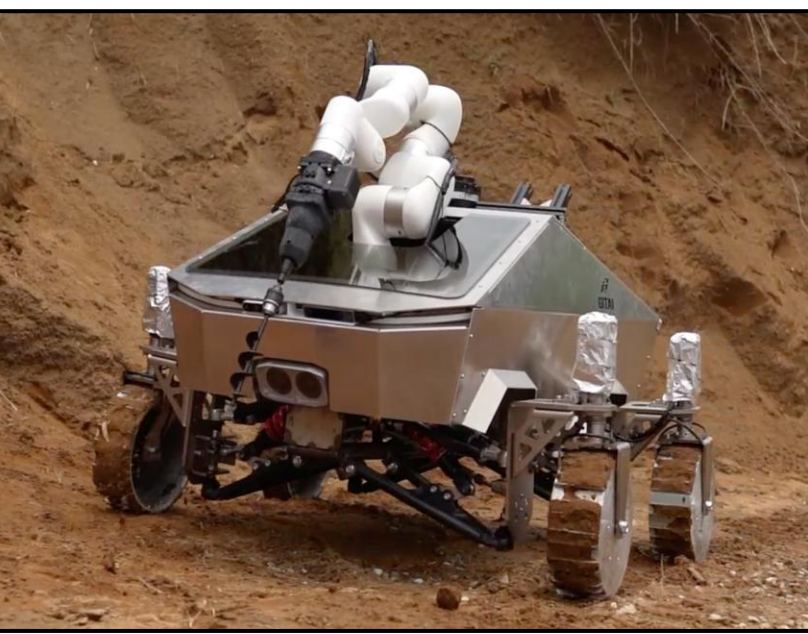
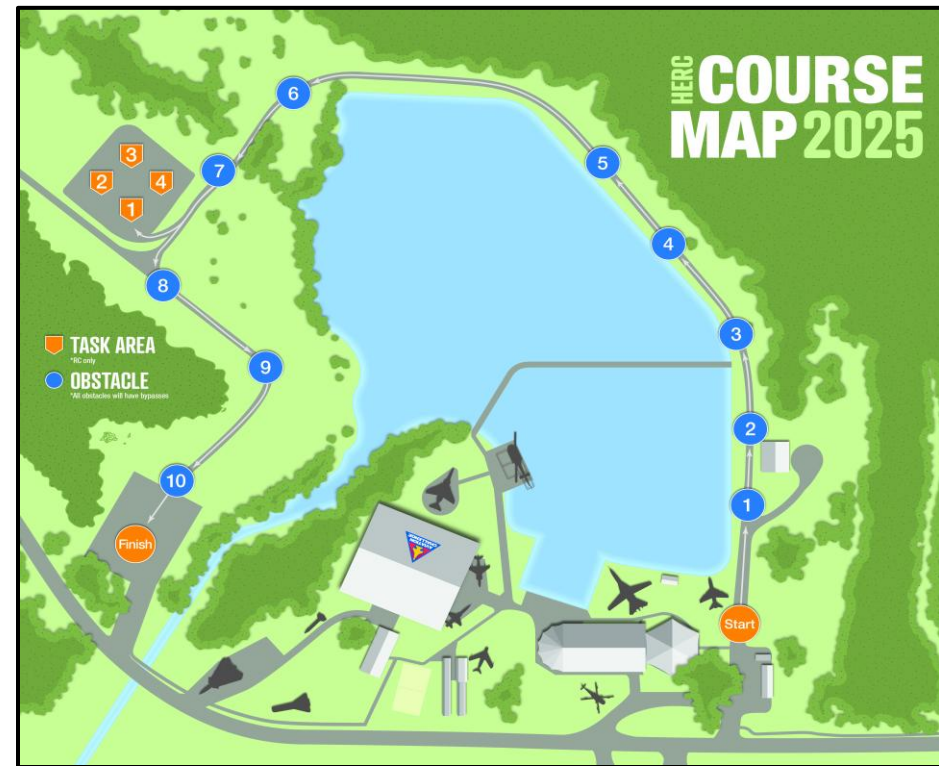

Figure 1: Lunar Robot Design Example
Figure 2: Course Map
The team designed and built a NASA Remote Controlled (RC) Rover for the NASA Human Exploration Rover Challenge. The challenge tasked the team with designing an RC rover that fits in a 2.5 ft. x 2.5 ft. x 2.5 ft cube, complete terrain mapping and sample drilling tasks, and successfully traverse obstacles. Additionally, a cargo bay is needed to hold a sensor package which is the final task. Figure 1 displays an example of a current NASA Rover that was used for inspiration during the design phase. Figure 2 shows the layout of the course at the competition. At the competition, the team would be required to traverse the course which consists of 10 obstacles and various tasks. All the tasks and obstacles will earn the team points towards an overall score.